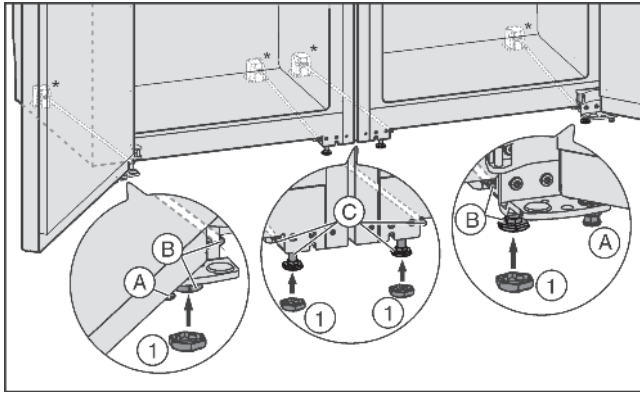

Fig. 22
- ▶ If necessary screw in the adjustment feet Fig. 22 (A) at the front of both appliances completely so that there is no floor contact.
- ▶ Place the caps Fig. 22 (1) on the four front adjustment feet.
- ▶ Tighten the centre adjustment feet *Fig. 22 (C)* so that there is no floor contact.
- ▶ Align the combination with the outer adjustment feet *Fig. 22 (B)*.
- ▶ Lower the centre adjustment feet *Fig. 22 (C)* again until they touch the floor.
- ▶ Then shore up the door: Lower the adjustment feet *Fig. 22 (A)* onto the bearing bracket until they contact the floor then turn 90° again.